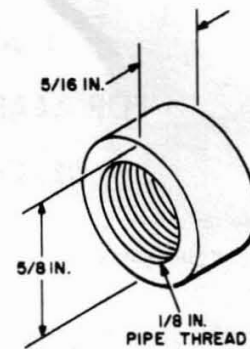

Fig. 1—C Pressure Flange
2.01 The C pressure flange (Fig. 1) is made of tinned bronze and is sealed with a C pressure flange plug (paragraph 3.04). The C pressure flange is furnished in packages of 25. This flange is used in: